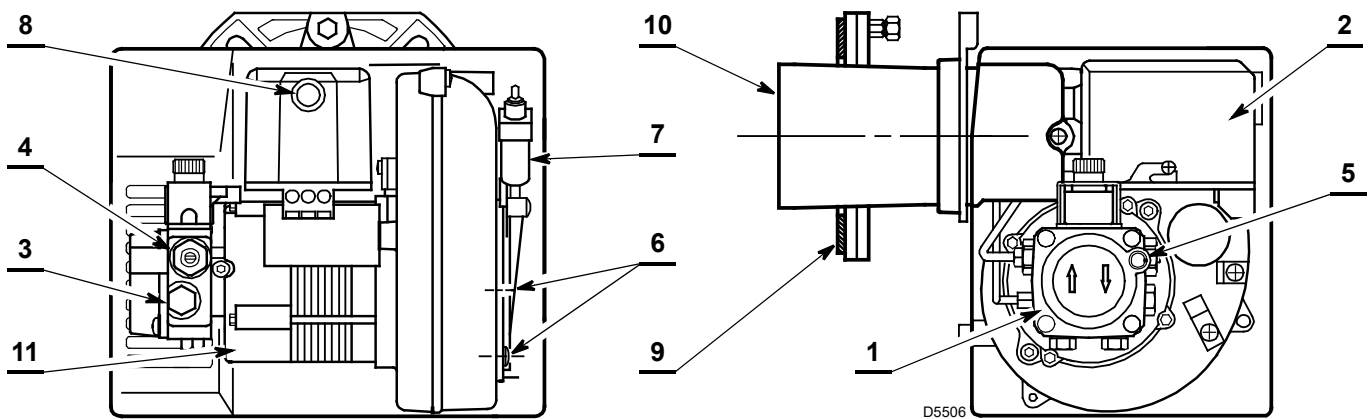

Fig. 1
- It is necessary that the insulating gasket 9)(Fig. 1) is placed between the boiler door and the burner flange.